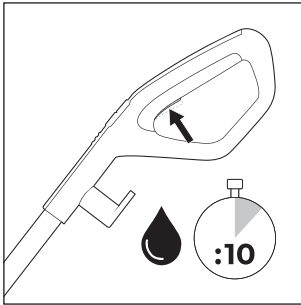
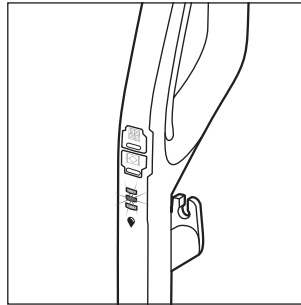

Fig. 18
Fig. 19
- ◆ Before each use, press and hold the cleaning solution switch (15) for about 10 seconds to add cleaning solution to the rotary brush (6) so that it is ready for use (see fig. 18). The cleaning solution display (12) flashes alternately blue when the cleaning solution switch (15) is held down (see fig. 19).